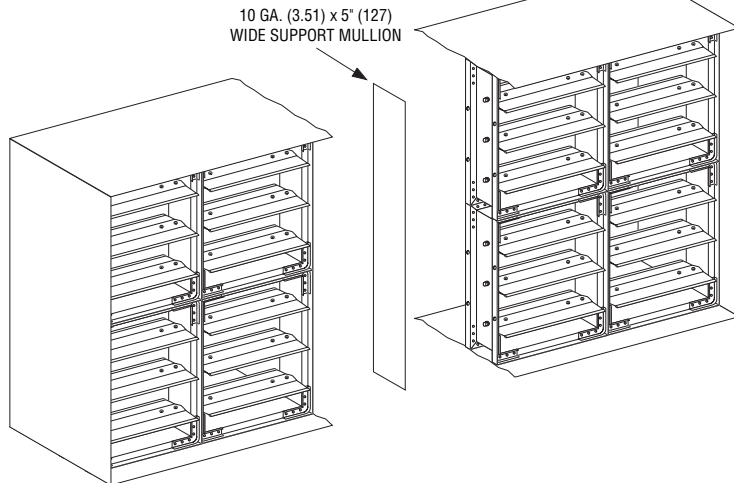
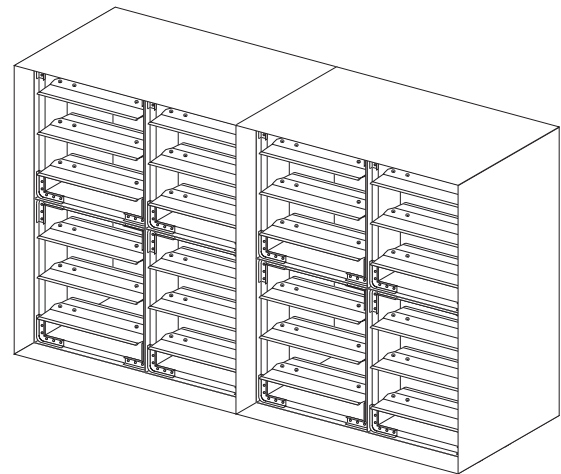

Figure 1. Single sleeve around outside and vertical mullion
Figure 2. Two individually sleeved units (No mullion required)
**9. Multiple-section assemblies:** In multiple assemblies of vertical dampers, the frames shall be joined together on both sides of the damper using 1/4" (6) long welds, 1/4" (6.35) dia. bolts and nuts, or #8 sheet metal screws. Maximum 6" (152) on center.
Multiple section vertical damper assemblies, over two sections wide, require a 10 ga. (3.51) x 5" (127) flat vertical mullion between one pair of sections (see Figure 1). When a minimum 16 ga. (1.6) sleeve is used and a left and right section are sleeved separately, the sleeve acts as the mullion, therefore no mullion is required. The sleeves shall be joined together on both sides of the damper using 1/4" (6) long welds, 1/4" (6.35) dia. bolts and nuts or #8 sheet metal screws. Maximum 6" (152) on center (see Figure 2).